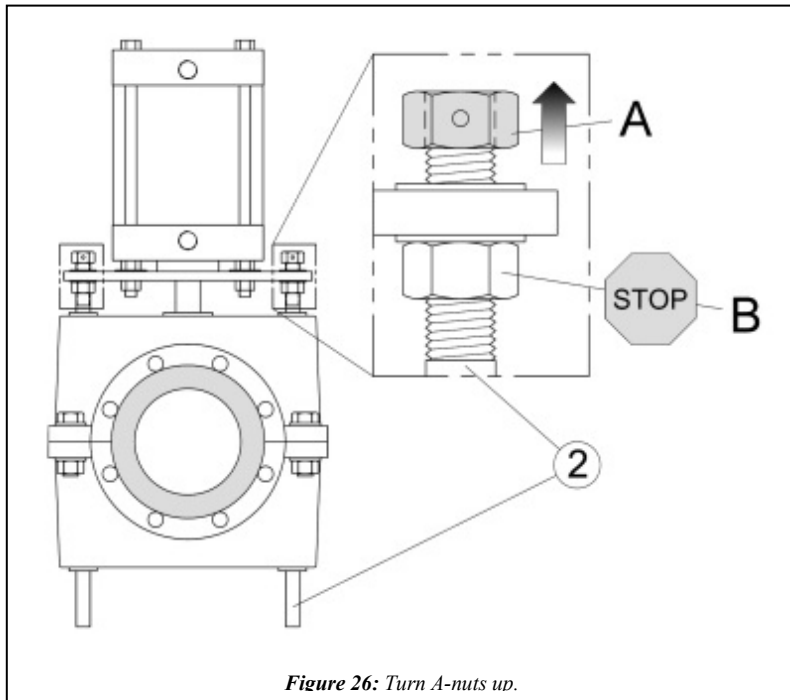

Figure 26: Turn A-nuts up.
STEP 3: Now loosen each A-nut until they come to the ends of their respective pull bar ② (Fig. 26).